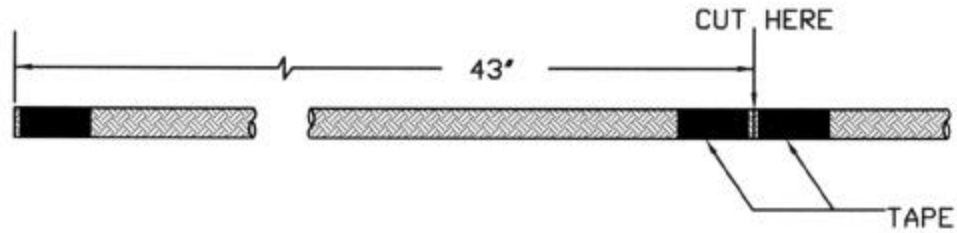

FIG. 2 - CUT ROPE TO LENGTH
2. Cut a piece of rope to a length of 43". [Tip: To keep the rope from unraveling, tightly bind the rope with tape on each side of the cut before severing. ] (See Figure 2)